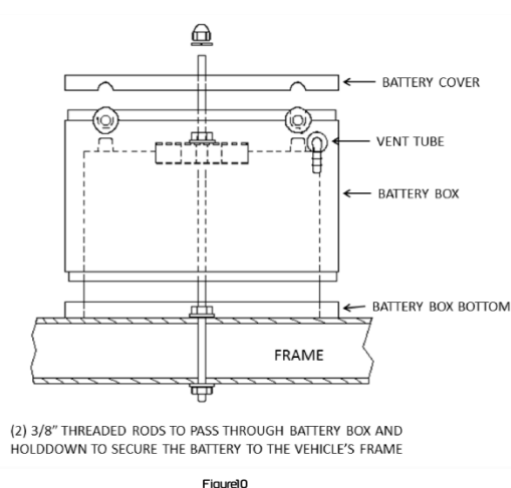

Fig .17
- G. The battery must be located inside the box securely bolted to the unibody/chassis and properly vented and drained (Figure 17)